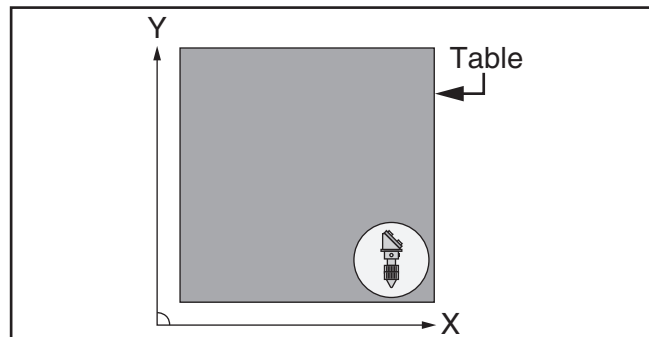

Figure 125. Laser head assembly in lower right corner of table.
7. Move laser head assembly to lower right corner of table (see **Figure 125**).